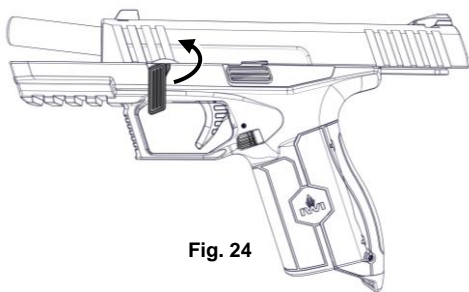

Fig. 24
4. Move the disassembly lever up 90° degrees to "lock" the slide on the frame (Fig. 24).